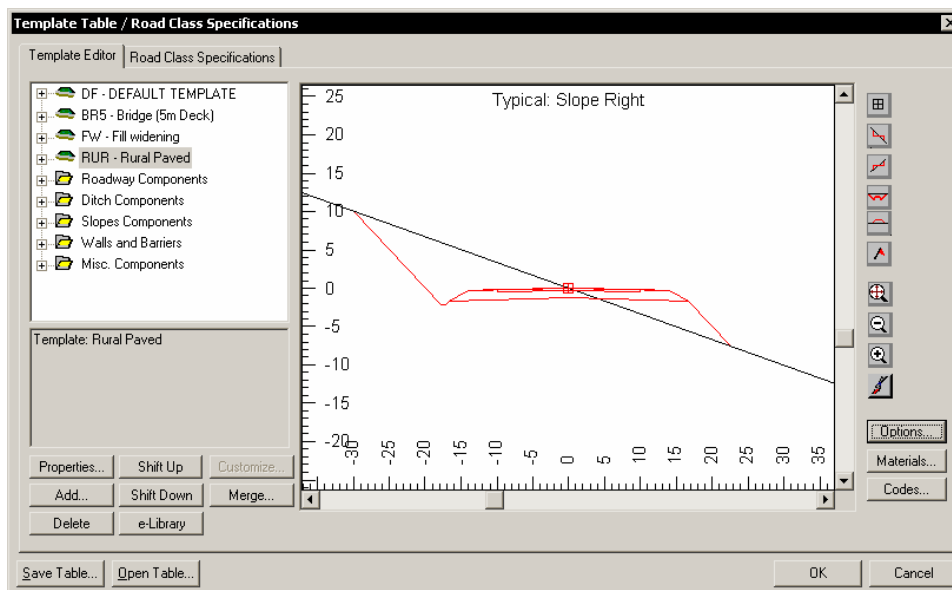

Figure 5.27: Template Editor Screen
2. Choose menu Edit | Edit Templates. The template editor should appear as shown in Figure 5.27.